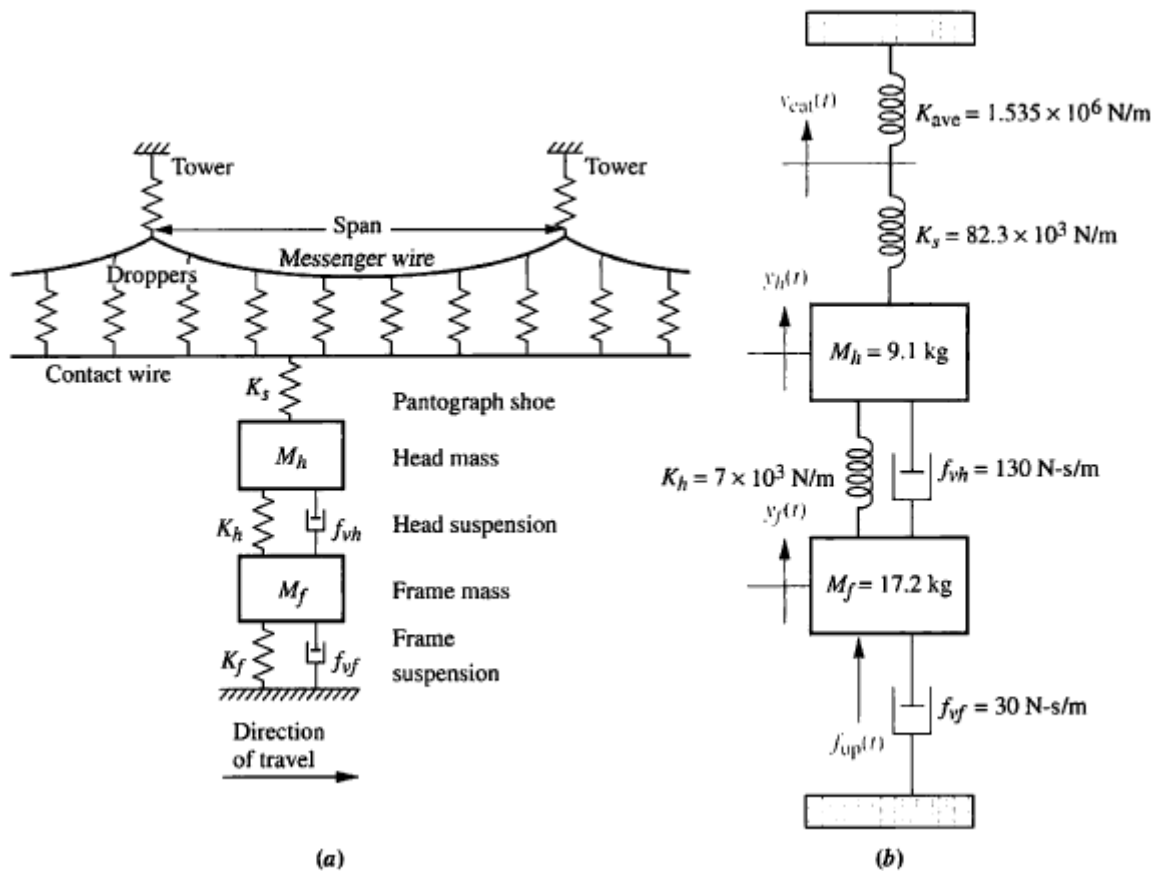

Figure: 3 (a) Coupling of pantograph and catenary; (b) simplified representation showing The active-control force (O'Connor, 1997)
Task 4: Get the Simulink block diagram for figure 3(b) from model equations.
1. Read the description of the system carefully and ask TA questions if you are not sure what to do in task 1. A sample functional block diagram of a feedback control is given in figure (2).
2. Write the model equations for figure 3(b) and take Laplace transform assuming initial conditions as 0. Find the respective transfer function.
5. Open Matlab-> Simulink, drag and drop necessary blocks and connect them appropriately starting from blocks shown in figure (4) and give input as step $u(t)$ for 1 to 1.5 secs. Save your graph and block diagram.